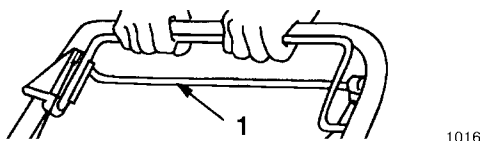

Figure 16
2. To disengage the self-propel drive, release the self-propel drive bail (Fig. 16).